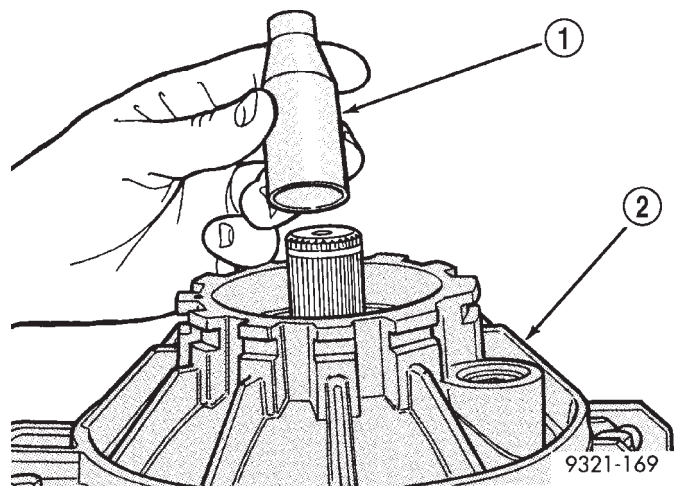

Fig. 407 Seal Protector
(27) Install seal protector (special tool 6591) as shown in (Fig. 407). Apply a thin film of gear oil on the protector.